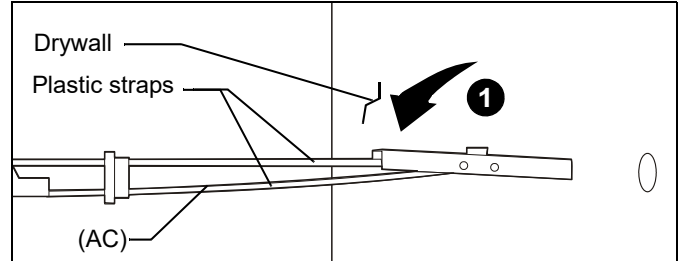

Figure 19
1. Hold metal channel on anchor (AC) flat alongside plastic straps and slide channel through hole. (See Figure 19)